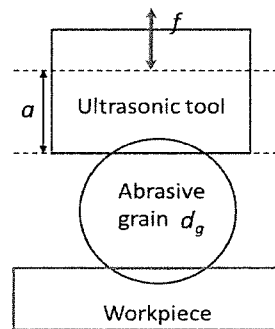

Fig 2: Question 4
4. In ultrasonic machining process (see Fig. 2), the average material removal rate (MRR) is calculated using grain hammering model. Use the basic fundamentals to derive the material removal rate given by: [10]